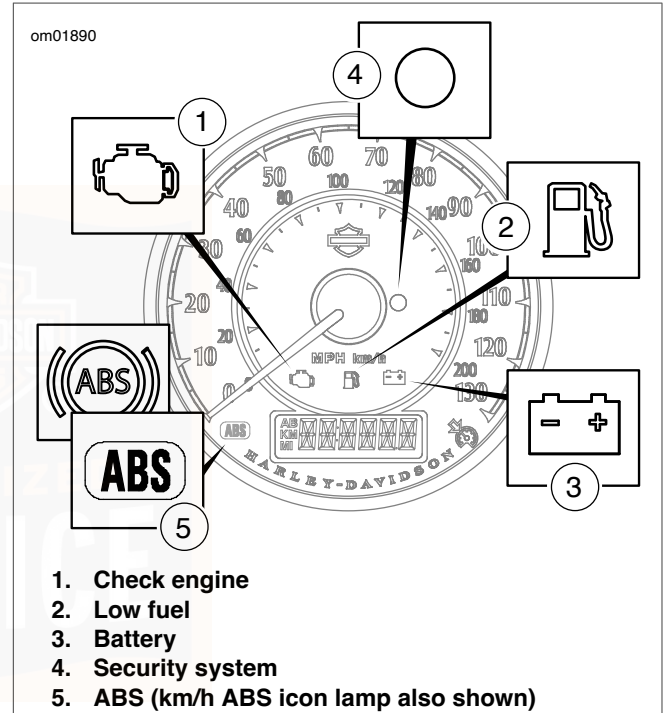

Figure 10. Instrument Lamps: All except XL1200CX
- **All except XL1200CX:** See Figure 10.